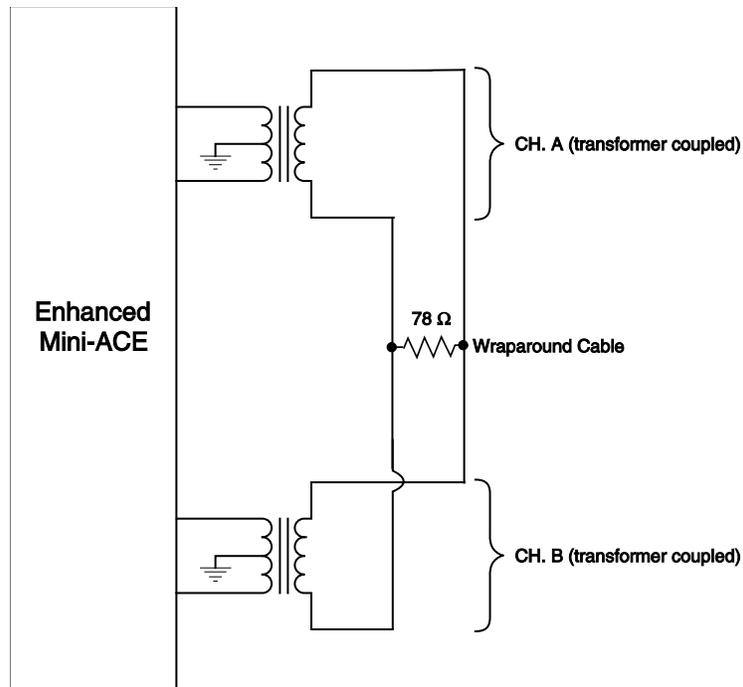

Figure 30. Connection Diagram for CH. A-to-CH. B Wraparound Self-Test
In order to perform this test, there needs to be a wraparound connection between the 1553 A and B bus channels, as shown in Figure 30. This connection must include a termination resistor connected between the DATA-A(B) and DATA-A(B)* wires. Assuming that the transformer-coupled (stub-coupled) taps (usually the inner taps) of the isolation transformers are used, the value of this resistor should be 78 ohms. If the outer (direct coupled) taps are used -- which are required to include 55 ohm series resistors in each leg -- then the value of the termination resistor should be 39 ohms.